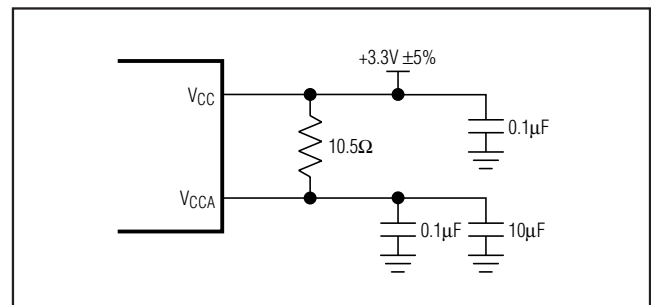

Figure 2. Analog Supply Filtering
**Note 1:** A series resistor of up to  $10.5\Omega$  is allowed between  $V_{CC}$  and  $V_{CCA}$  for filtering supply noise when system power-supply tolerance is  $V_{CC} = 3.3V \pm 5\%$ . See Figure 2.
The MAX3624 is a mixed analog/digital IC. The PLL contains analog circuitry susceptible to random noise. In addition to excellent on-chip power-supply noise rejection, the MAX3624 provides a separate power-supply pin,  $V_{CCA}$ , for the VCO circuitry. Figure 2 illustrates the recommended power-supply filter network for  $V_{CCA}$ . The purpose of this design technique is to ensure clean input power supply to the VCO circuitry and to improve the overall immunity to power-supply noise. This network requires that the power supply is  $+3.3V \pm 5\%$ . Decoupling capacitors should be used on all other supply pins for best performance.